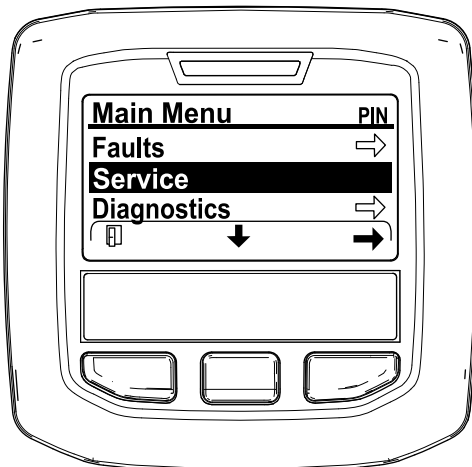

Figure 49
2. Navigate to the MAIN MENU, press the center button to scroll down to the SERVICE MENU, and press the right button to select the SERVICE option (Figure 49).